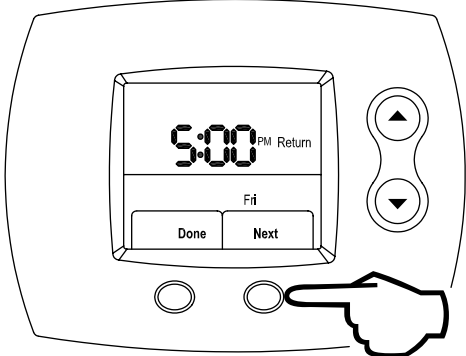

Figure 136
Step 19: Press the **RIGHT** (Next) button to lock in AM / PM. This is shown in Figure 136.